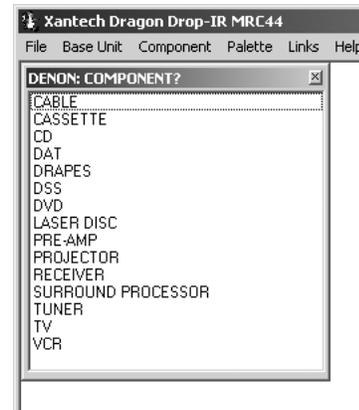

Figure 15
3. Locate and Select (single click) the type of COMPONENT as shown in **Figure 15** (DVD, SAT etc) (See later sections for adding types).